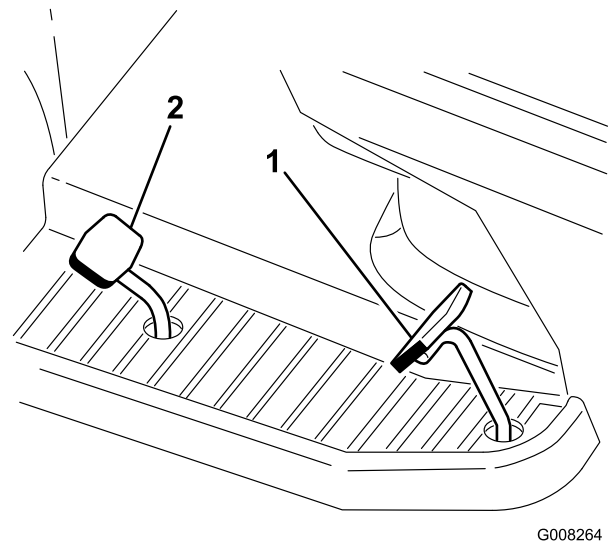

Figure 16
2. Place your foot on the traction control pedal and slowly press on the pedal to move forward (Figure 16).
2. Place your foot on the reverse speed pedal and slowly press on the pedal to move backward (Figure 16).